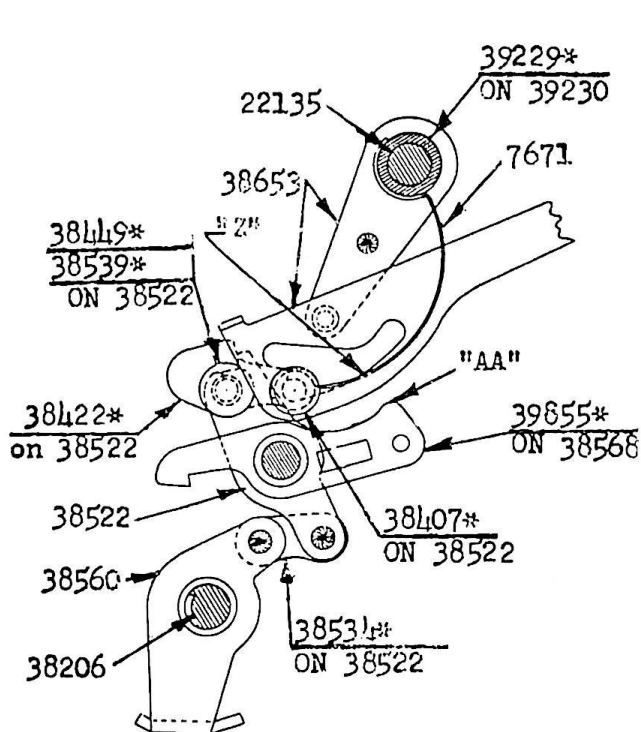

FIG. 30
8. (Fig. 30 & 31). Riveted to the upper end of Lever-38522 is the Multiplier Selection Restore Live Tip-38422*. The rearward end of